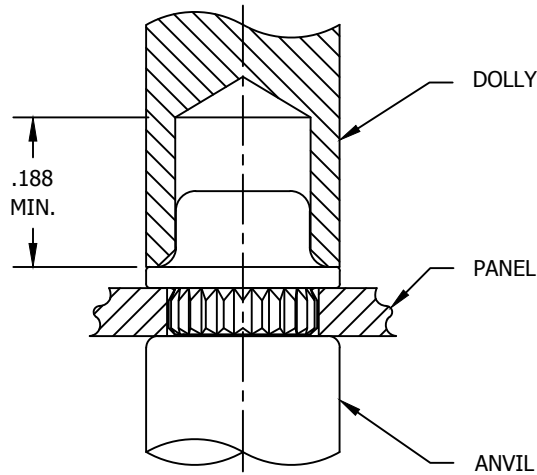

FIGURE 2 - INSTALLATION DIAGRAM
3. PRESS KNURLED SHANK OF NUT INTO HOLE USING A DOLLY AND ANVIL AS SHOWN IN FIGURES 2 AND 3 UNTIL THE SHOULDER OF THE NUT CONTACTS THE STRUCTURE FOR A FULL 360°.